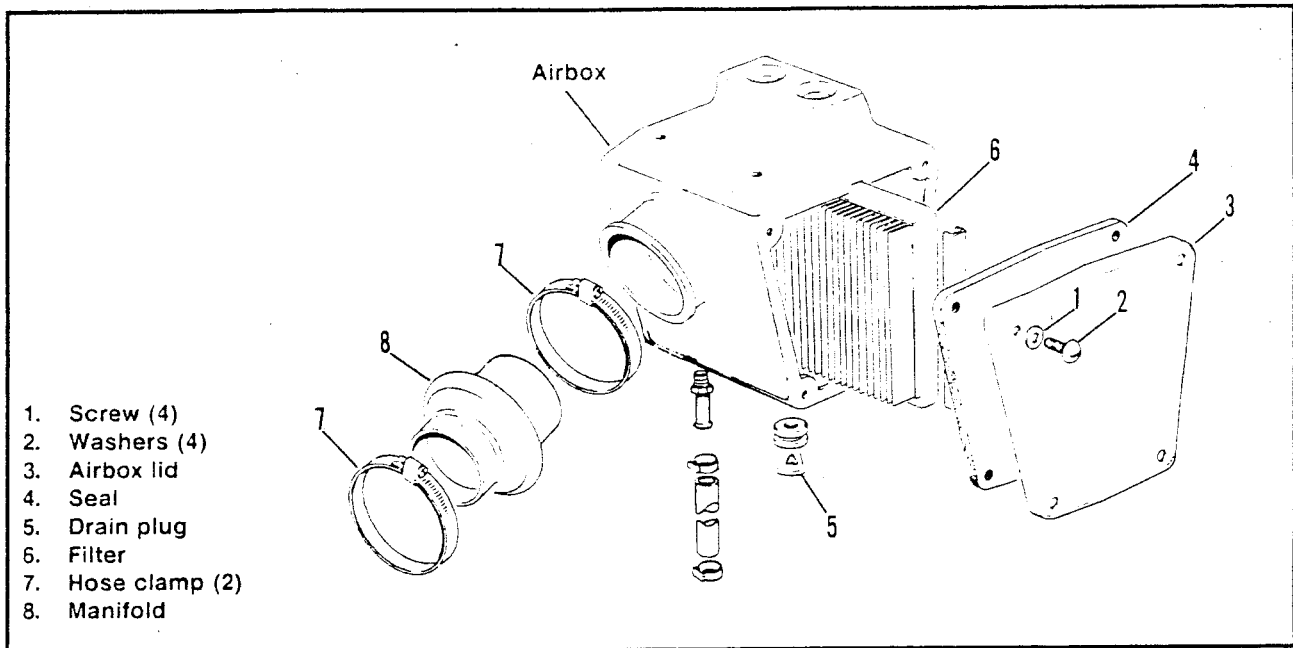

Figure 3-14. Airbox
2. See Figure 3-14. Unscrew the airbox lid retaining screws (1) and washers (2) remove lid (3) and seal (4).